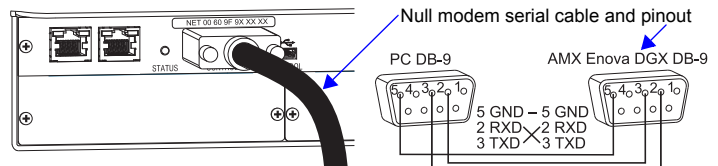

FIG. 6 Null modem serial cable connected to Control (DB-9) serial port
2. Plug the null modem serial cable into the serial port on the enclosure (FIG. 6).
3. Plug the other cable end into the serial port on the serial controller/device (PC).